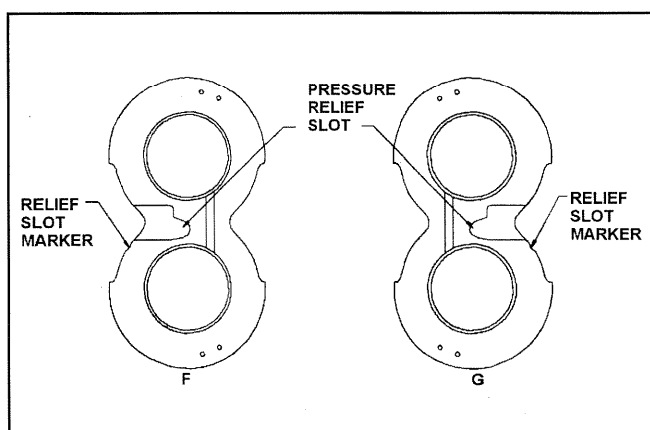

Figure 8: Type F & G Wearplates
1. There are two types of wearplates: Type F and Type G. Examples of these types are shown in Figure 8. The main differences between the two types lie in the handling of the pressure relief slot. It is critical to note the following when assembling wearplates into pumps: